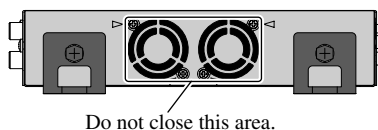

Fig. 10
- The cords must not cover up the area shown in the figure below. This is necessary to allow the amplifiers to radiate freely. (Fig. 10)